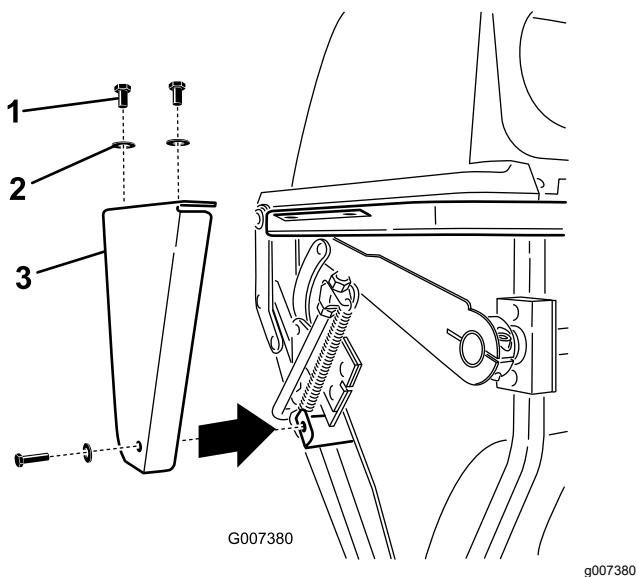

Figure 51
3. Remove the side plate from both sides of the bagger (Figure 51).